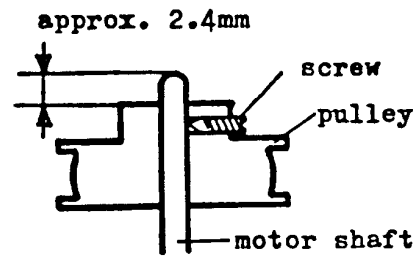

Fig.14
(3) After replacement of motor ass'y, adjust the pulley position of new motor as shown in Fig.14 then check the position of driving belt to insure the following: